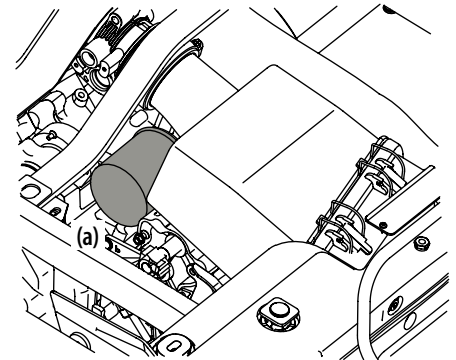

Figure 5-20
2. Remove the oil filter (a). See Figure 5-20.